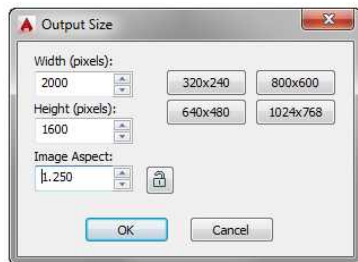

FIGURE 17.38: The Output Size dialog box
9. In the Output Size dialog box (see Figure 17.38), set the Width to 2000 and the Height to 1600, and then click OK.